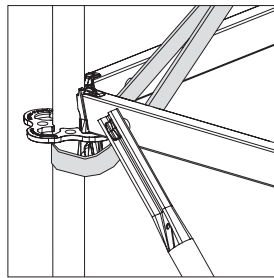

Fig. C1.04a
4. Attach using suitable lifting gear (e.g. round slings) as shown in the figure and lift with the crane Stop angle max. 60°. (Fig. C1.04a)